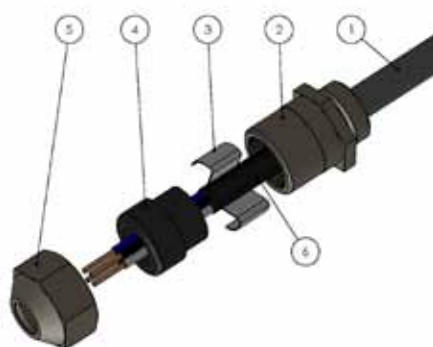

Fig. 71: Spring on naked screen
7. Make sure all cables (Fig. 71/1) are placed correctly and the spring (Fig. 71/3) is in full contact with the naked screen (Fig. 71/6).